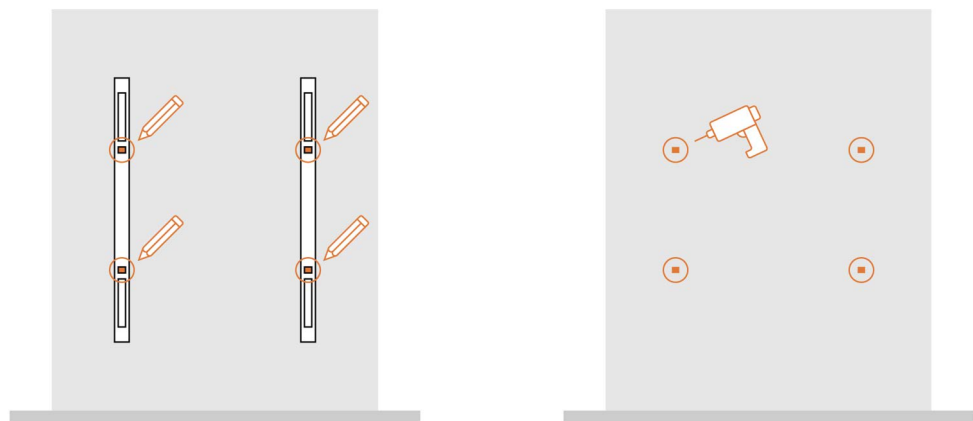

Figure 3 | Finding and marking drill hole locations. Drilling the holes and inserting wall plugs.
4. Mark the drilling locations through the holes in the U-rails, as seen in **Figure 3**.